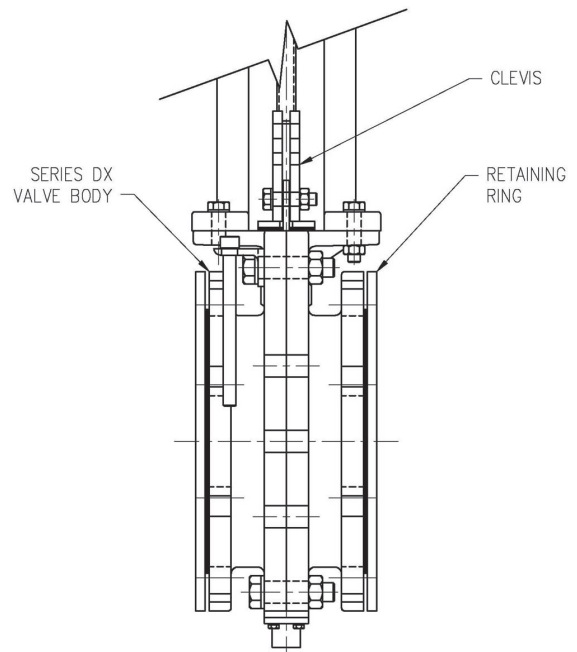

Figure 3
5. Standard retainer ring material is UHMW. Valves 10" and larger are shipped with retainer rings mounted to the valve. Retaining rings on valves 3" - 8" are optional. Refer to Figure 3 on the opposite page.